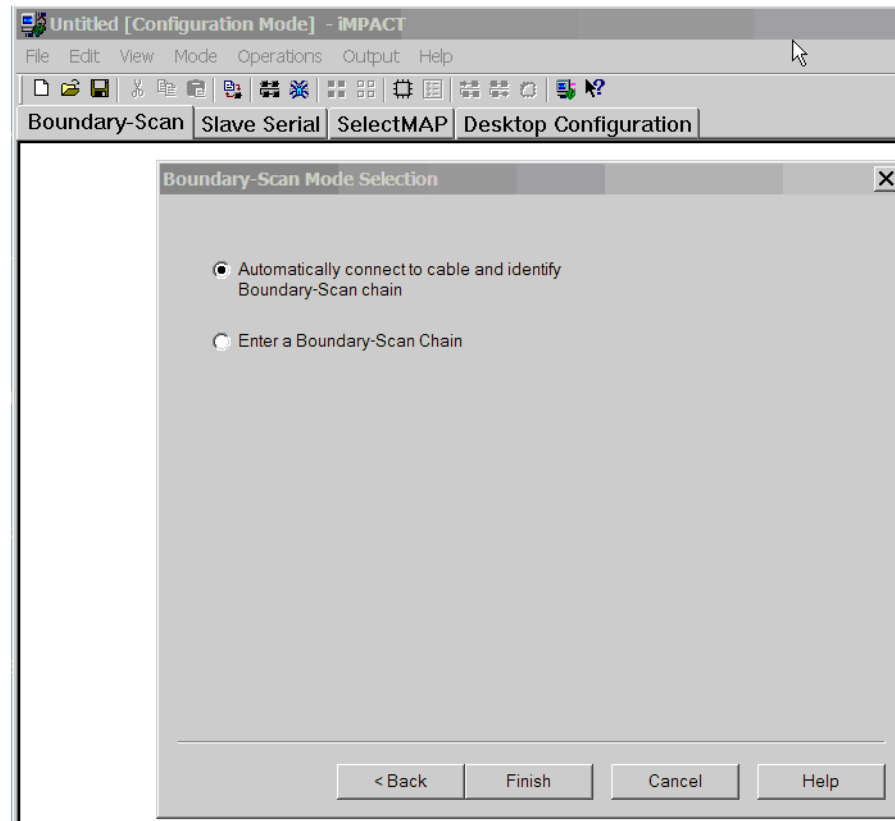

Figure C-3: **Boundary Scan Mode Selection: Automatically Connect to the Cable and Identify the JTAG Chain**
5. Click on Next and then select Automatically connect to the cable and identify the Boundary Scan as shown in Figure C-3.